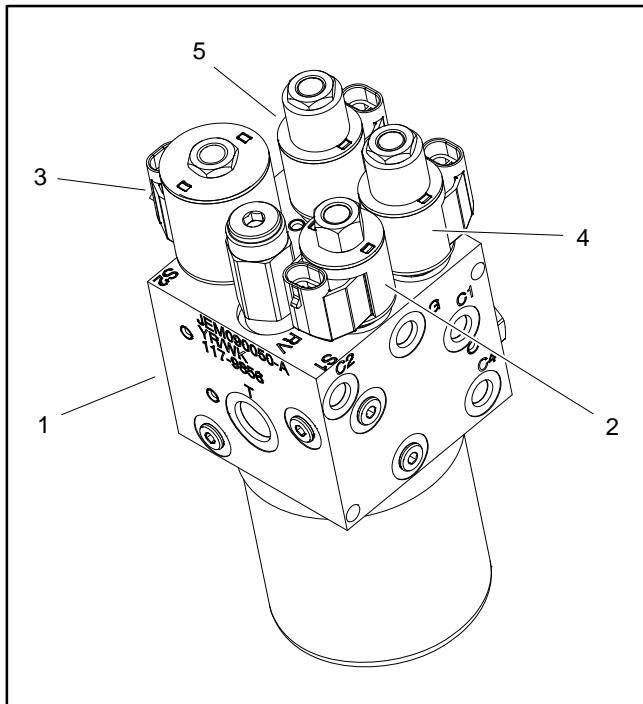

Figure 49
3. Disconnect harness electrical connector from hydraulic solenoid valve coil that is to be tested (Figs. 49, 50 or 51).